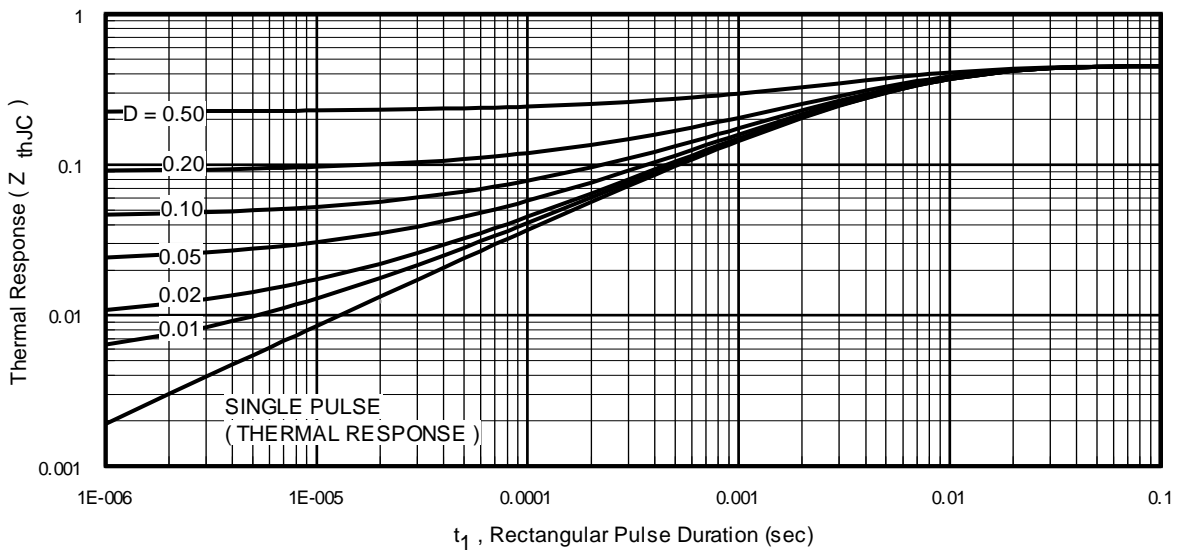
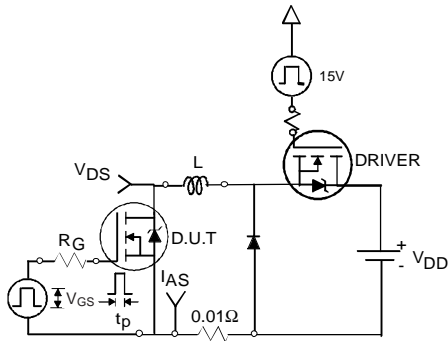

Fig 11. Maximum Effective Transient Thermal Impedance, Junction-to-Case
Fig 12a. Unclamped Inductive Test Circuit
- ① Repetitive rating; pulse width limited by max. junction temperature. (See fig. 11).
- ② Limited by T_{Jmax} , starting $T_J = 25^\circ\text{C}$, $L = 0.24\text{mH}$, $R_G = 25\Omega$, $I_{AS} = 75A$, $V_{GS} = 10V$. Part not recommended for use above this value.
- ③ $I_{SD} \leq 75A$, $di/dt \leq 220A/\mu s$, $V_{DD} \leq V_{(BR)DSS}$, $T_J \leq 175^\circ\text{C}$.
- ④ Pulse width $\leq 1.0\text{ms}$; duty cycle $\leq 2\%$.
- ⑤ $C_{oss\text{ eff.}}$ is a fixed capacitance that gives the same charging time as C_{oss} while V_{DS} is rising from 0 to 80% V_{DSS} .
- ⑥ Limited by T_{Jmax} , see Fig.12a, 12b, 15, 16 for typical repetitive avalanche performance.
- ⑦ This value determined from sample failure population. 100% tested to this value in production.
- ⑧ This is applied to D²Pak, when mounted on 1" square PCB (FR-4 or G-10 Material). For recommended footprint and soldering techniques refer to application note #AN-994.
- ⑨ Max $R_{DS(on)}$ for D²Pak and TO-262 (SMD) devices.
3. Equation below based on circuit and waveforms shown in Figures 12a, 12b.
$Z_{thJC}(D, t_{av})$ = Transient thermal resistance, see figure 11)